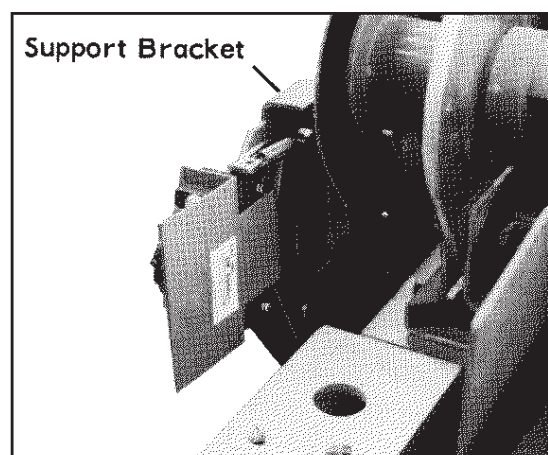

Fig. 1
2. Mount interlock to inside surface of left hand cross-bar support bracket as shown in fig. 1.